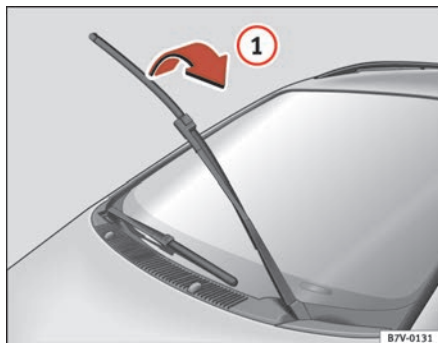
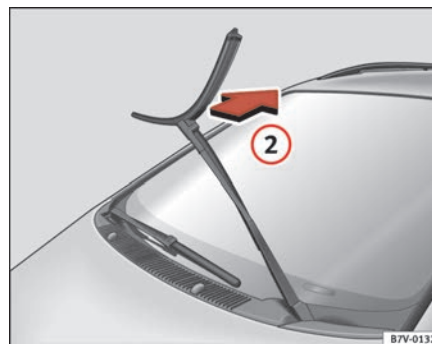

Fig. 145 Windscreen wipers raised
Fig. 146 Removing front wipers
- Turn the wiper blade as shown by arrow ⇒ fig. 145 ① as far as it will go and then pull it off as shown by arrow ⇒ fig. 146 ②.
- Push a new wiper blade **of the same length and version** onto the wiper arm and turn the wiper blade to the stop against the direction shown by arrow ①.